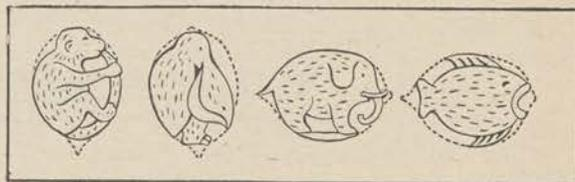

Figure 279.
b. Peach pits and the stones of other fruits can be carved with an ordinary pocket knife into a variety of human and animal shapes. They should be washed and dried before carving (fig. 279).